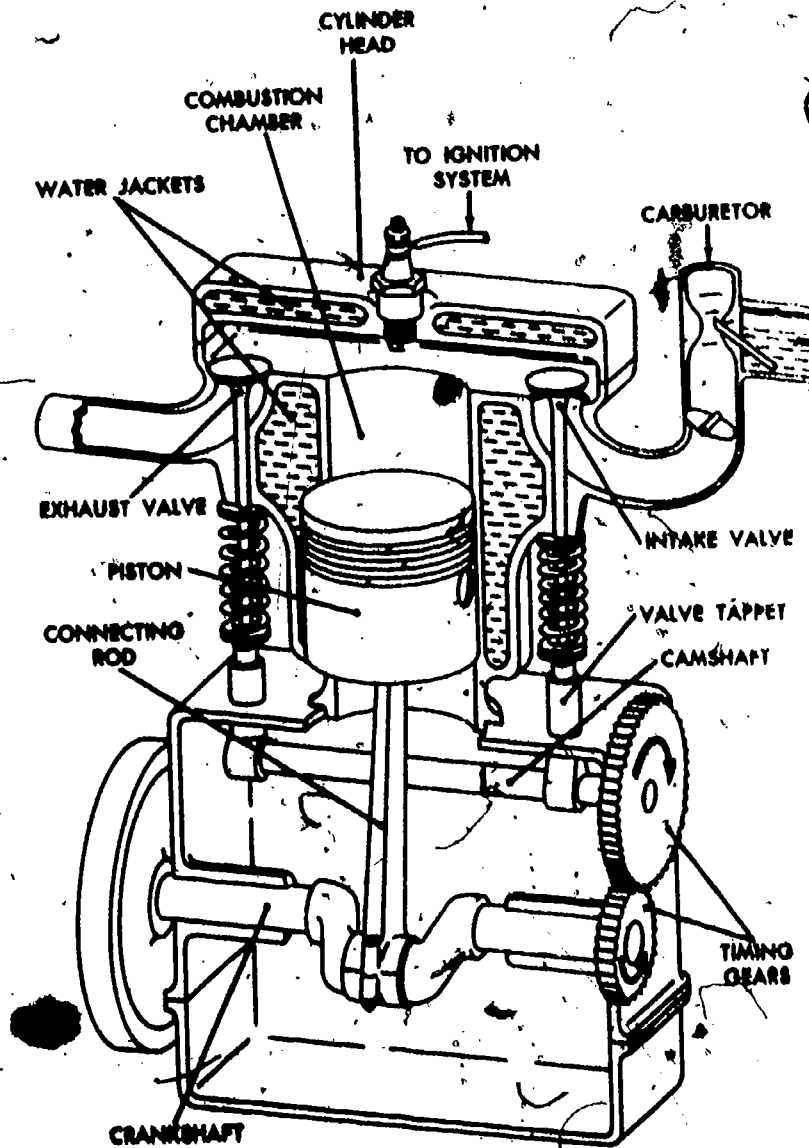

Fig 2-1. Single-cylinder, 4-stroke-cycle, gasoline engine.
- (1) **Cylinder and piston (fig 2-1).** In the cutaway of a single-cylinder gasoline engine, the upper, or head end of the cylinder is closed by a cylinder head, but the lower end is open. The piston is a hollow metal tube with the top end closed. It has a close-sliding fit in the cylinder, which means it can move up and down. This up-and-down movement, produced by the burning of fuel in the cylinder, provides engine power.
- (3) Valves. There are two valves at the top of the cylinder. A valve is an accurately machined plug that fits into a machined opening at the top of the cylinder. When the valve is resting in this opening, it is said to be seated. When a valve is seated, it is closed and the opening is sealed off. When a valve is pushed off its seat, it is opened. The two valves in the cylinder are closed part of the time and open part of the time. One of the valves, called the intake valve, opens to admit a mixture of fuel and air into the cylinder. The other valve, called the exhaust valve, opens to allow the escape of burned gases.
- (4) Valve mechanism action. There are various ways of causing the intake and exhaust valves to open and close. One method is shown in figure 2-1. Here, a gear on the crankshaft is in mesh with a second gear on another shaft called the camshaft. The camshaft has a number of cams on it which are simply raised sections, or collars with high spots on them. When the camshaft rotates, the high spots (called lobes) move and push away anything they are in contact with. Riding on each cam is a cylindrical valve tappet. As the lobe moves up under the valve tappet, the tappet is raised. This upward movement causes the valve above it to be raised off its seat. When the lobe on the cam moves on around out of the way, the pressure of the spring under the valve forces the valve to move down and reseat. At the same time, the valve tappet is also forced downward so